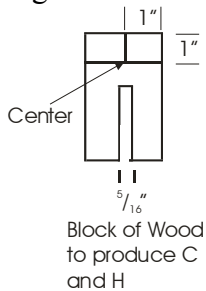

Figure 5
5. Cut two 2” pieces from the 2”X 4” wood. Cut the notch in both pieces as shown below in Figure 5.